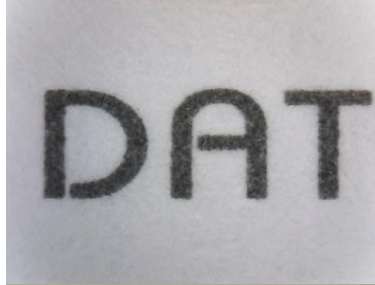

Fig 3-18 Video image with no flip
- ⊕ No Flip “ ” : image direction flipping, by means does not make any direction flipping shown in Fig 3-18.